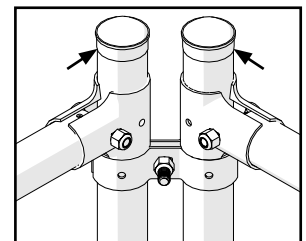

FIG. 7
7. Press dome tops onto each vertical post. (Fig. 7)